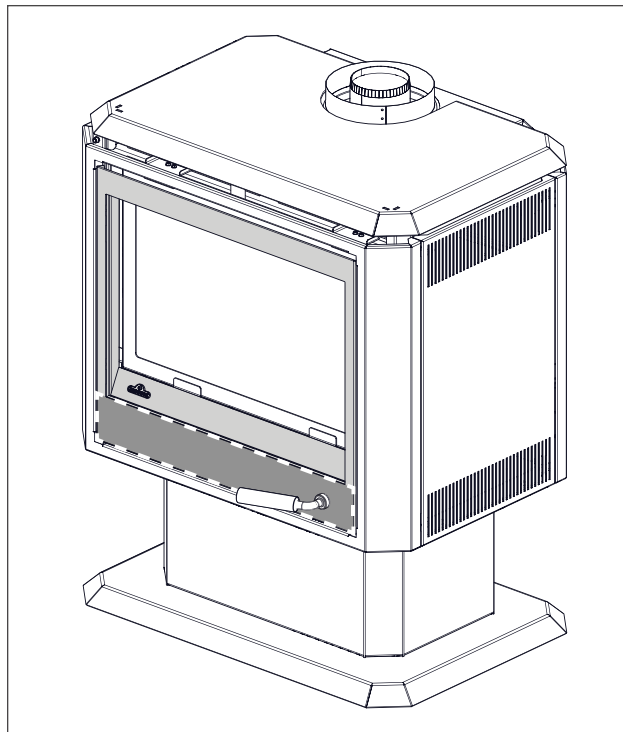

Fig. 1-1
- The handle must be installed on the bottom half of the safety barrier (Fig. 1-1).